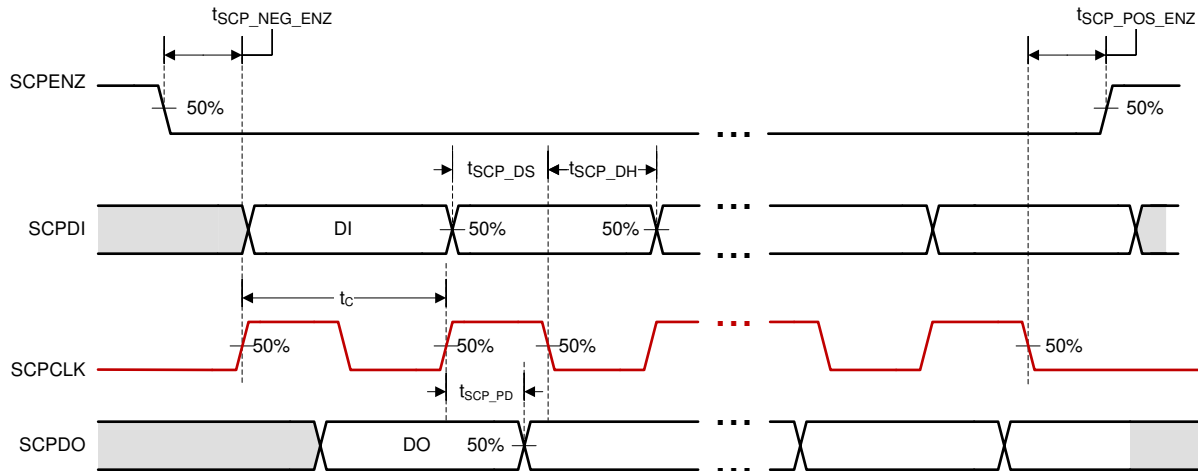

图 6-2. SCP Timing Requirements
- (5) Low-speed interface is LPSDR and adheres to the Electrical Characteristics and AC/DC Operating Conditions table in JEDEC Standard No. 209B, "Low-Power Double Data Rate (LPDDR)" JESD209B. Tester conditions for V_{IH} and V_{IL} .
- (6) PWRDNZ input pin resets the SCP and disables the LVDS receivers. PWRDNZ input pin overrides SCPENZ input pin and tristates the SCPDO output pin.
- (7) The SCP clock is a gated clock. Duty cycle must be $50\% \pm 10\%$. SCP parameter is related to the frequency of DCLK.
- (8) See 图 6-2.